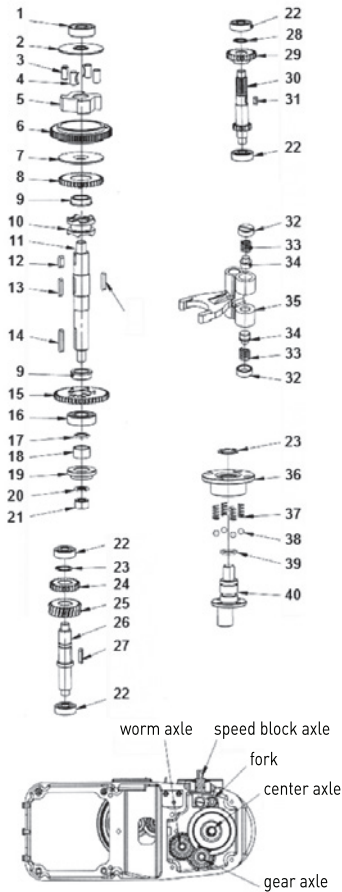

Figure 2: Gear assembly
- Gear assembly (Figure 2);
Machine part list of Figure 2